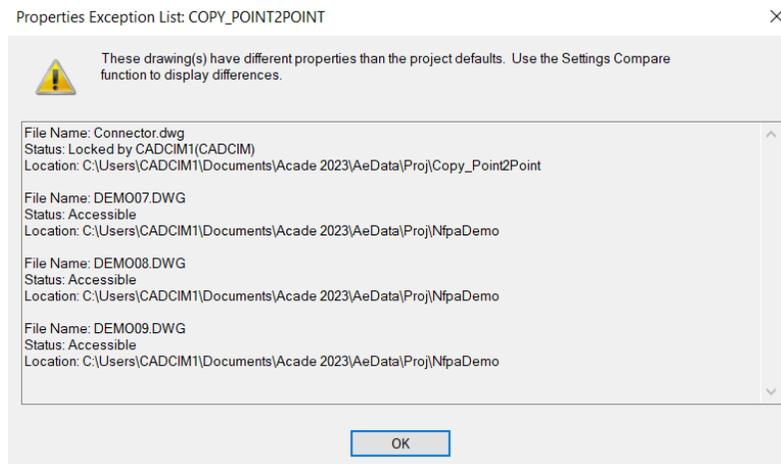

Figure 2-74 The Properties Exception List: COPY_POINT2POINT dialog box
1. Right-click on the **Copy_Point2Point** project and choose **Exception List** from the shortcut menu displayed; the **Properties Exception List: COPY_POINT2POINT** dialog box is displayed, as shown in Figure 2-74. This dialog box lists the drawings which have different properties than the project default properties. Next, choose the **OK** button in this dialog box.